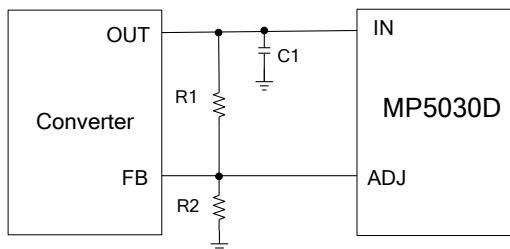

Figure 3: ADJ Configure
Figure 3 shows the typical ADJ usage. The ADJ sink current capability is 500 $\mu\text{A}$ . ADJ requires the feedback current through R1 to be less than 500 $\mu\text{A}$ . Calculate R1 with Equation (1):